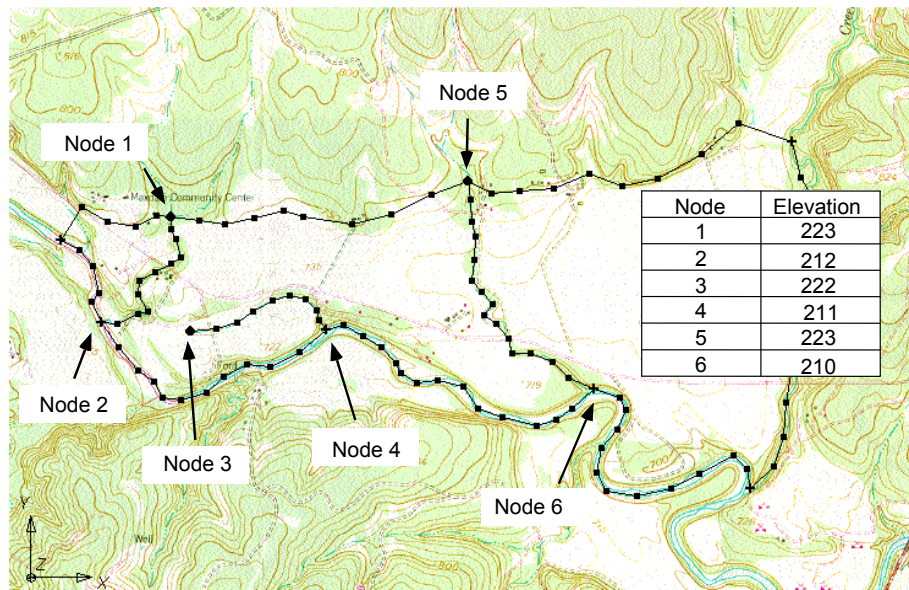

Figure 5. Elevations for Drain Nodes.
Double click on Node 2 in Figure 5. **Error! Reference source not found.** Notice that this node has 2 properties associated with it since it is attached to 2 arcs of different types.
13. Repeat this procedure to assign the drain elevations to the nodes shown in Figure 5. Be sure to change the *drain* property only, and NOT the *spec. head* property.